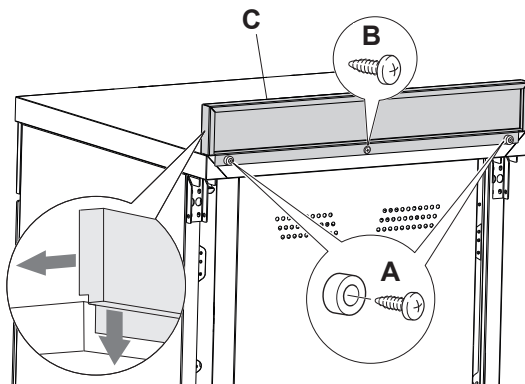

Figure 5
3. Assemble the backguard as shown in figure 5 and fix it by screwing the central screw "B" and the spacers "A".